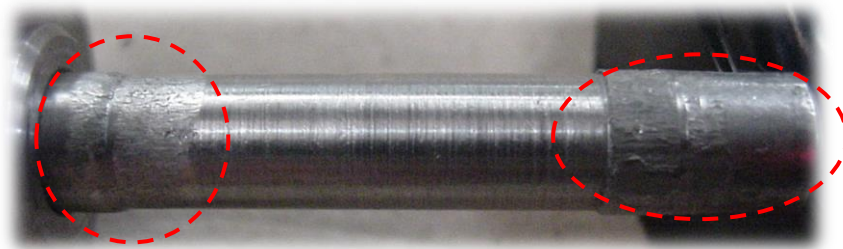

Figure 24: Example of Severe Wear on a Disk Stem
5. Check the portion of the disk stem that slides inside the adjustment screw bore. Verify that its surface is smooth. The surface must not have severe wear. See Figure 24 for an example.